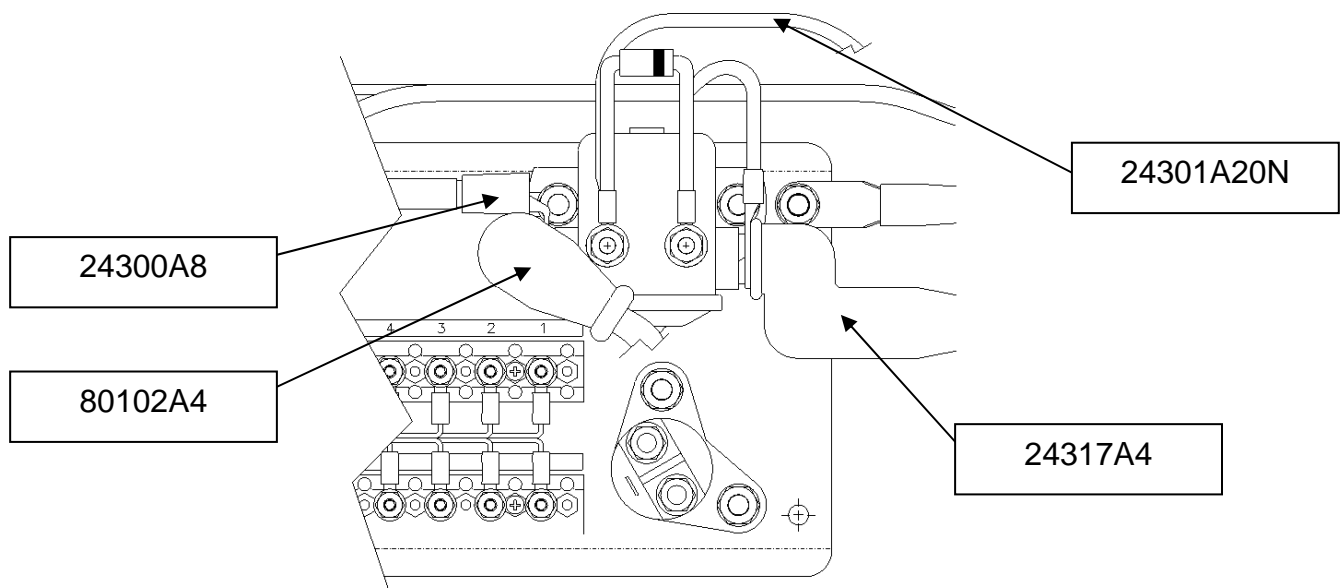

Figure 4: Relay wire attachments
10.3.3 Connect the battery relay cables as shown in Figure 4. Secure with supplied cable ties (P/N: MS3367-5-9) as required.